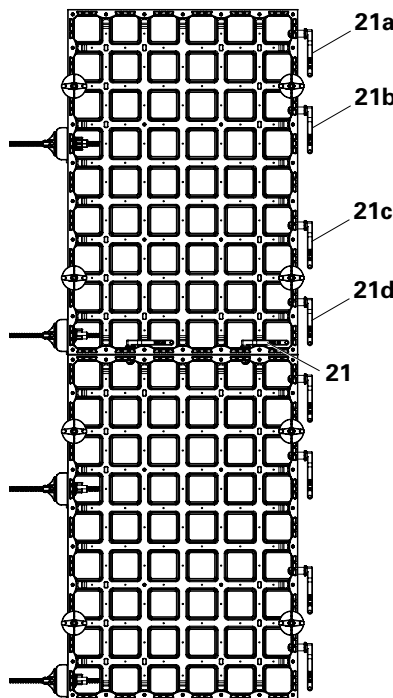
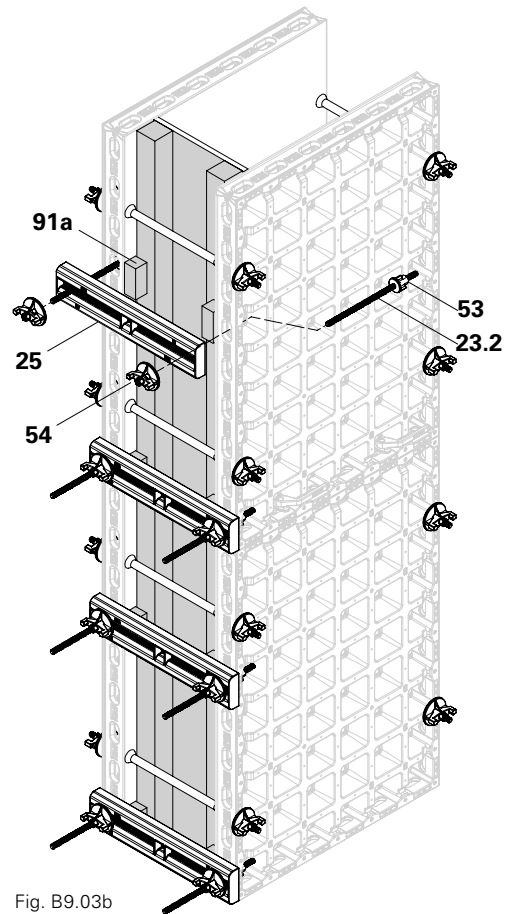

Fig. B9.03a
Fig. B9.03b
Mount the DUO 62 compensation waler (25) in the connector pocket (10.2) 2 levels below the tie points (Fig. B9.03a + Fig. B9.03b). Connect the stopend formwork to the following formwork using 4 DUO couplers (21a to 21d) for each panel. (Fig. B9.03a)
6. Fill space between the square timber and DUO 62 compensation waler (25) with wooden spacers (91a). (Fig. B9.03b)